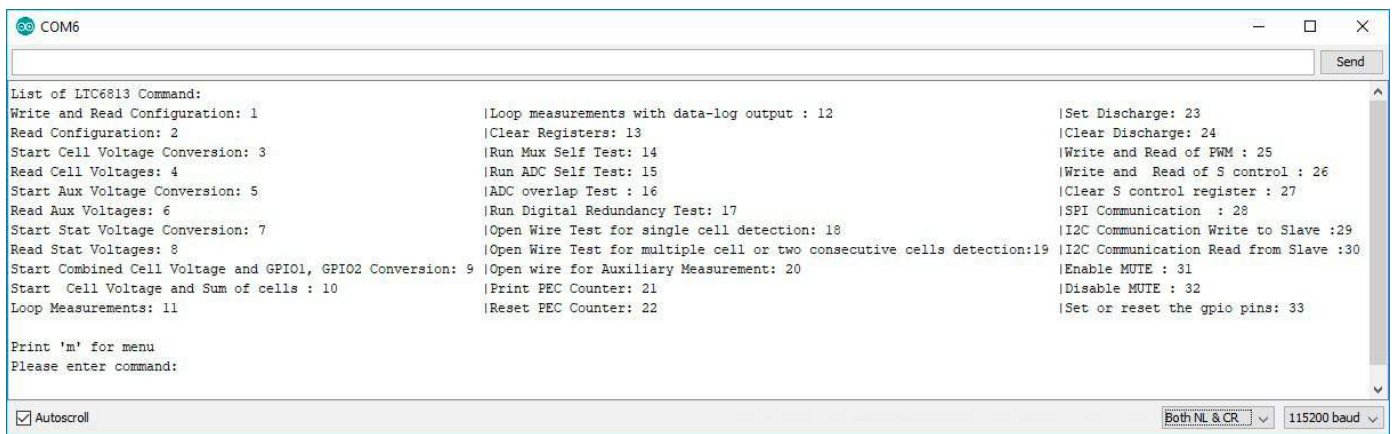

Figure 10. DC2350AB Sketch Menu
- As shown in Figure 10, when configured correctly the DC2350AB sketch menu will appear.